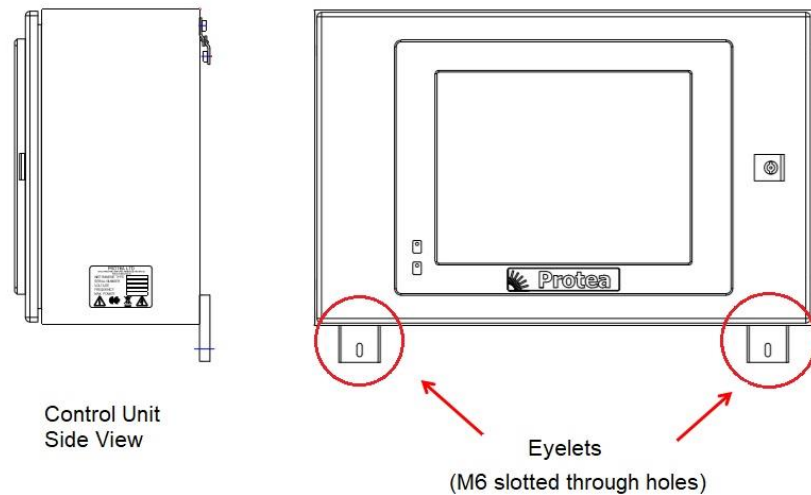

Figure 3-2 Mounting of Control Unit (Eyelet Fixings)
2. You must also fasten the Control Unit to the wall using the additional eyelets located at the base of the Control Unit (as shown in figure 3-2)